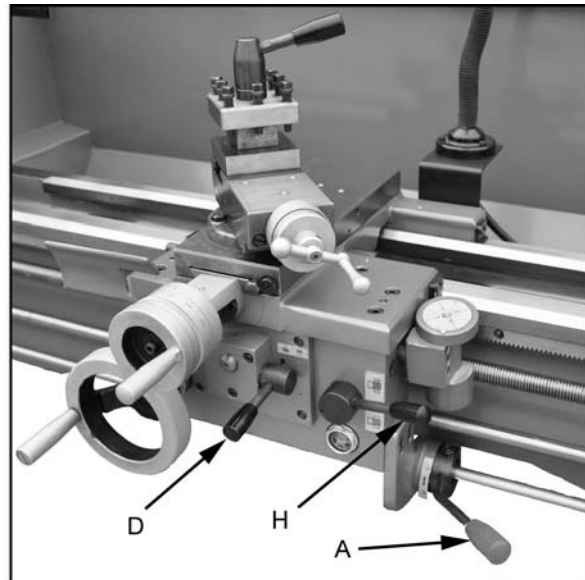

Figure 18
1. Move the forward/reverse selector (A, Fig. 18) up or down depending on desired direction.
Push lever (D, Fig. 18) to the left and down to engage crossfeed. Pull lever to the right and up to engage longitudinal feed.
3. Engage the half nut lever (H, Fig. 18).